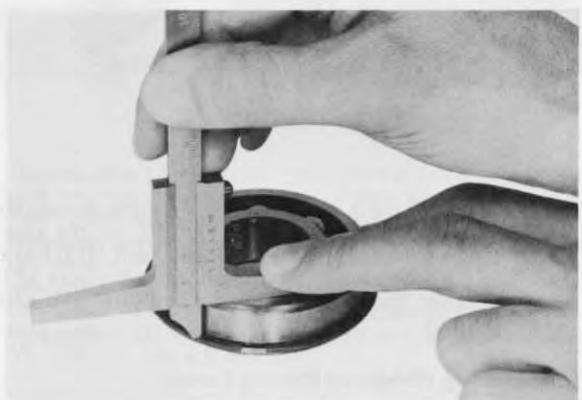

Fig. 53
- Insert spring ring (211) into the groove of the ball bearing (212). Measure from the upper surface of the bearing to the spring ring. The spring ring must be pressed onto the outer edge of the bearing groove (Fig. 53).